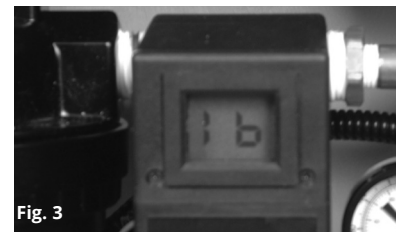

Fig. 3
To replace the 9-volt battery, remove the panel cover from the front of the CO monitor. Lift it off from either the left or right side. If a 9-volt battery is being used to power the monitor and the battery power becomes too low, the monitor will indicate low battery (LB) on the display to indicate it is time to change the battery. (Figure 3)